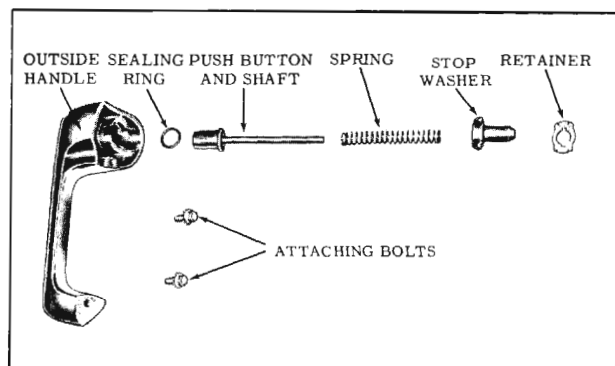

Fig. 16-238 Outside Door Handle
3. With a flat-bladed screwdriver and hammer, rotate sheet metal retainer 1/4 turn. Remove retainer, stop washer, spring, sealing ring and push button and shaft. (Fig. 16-238)